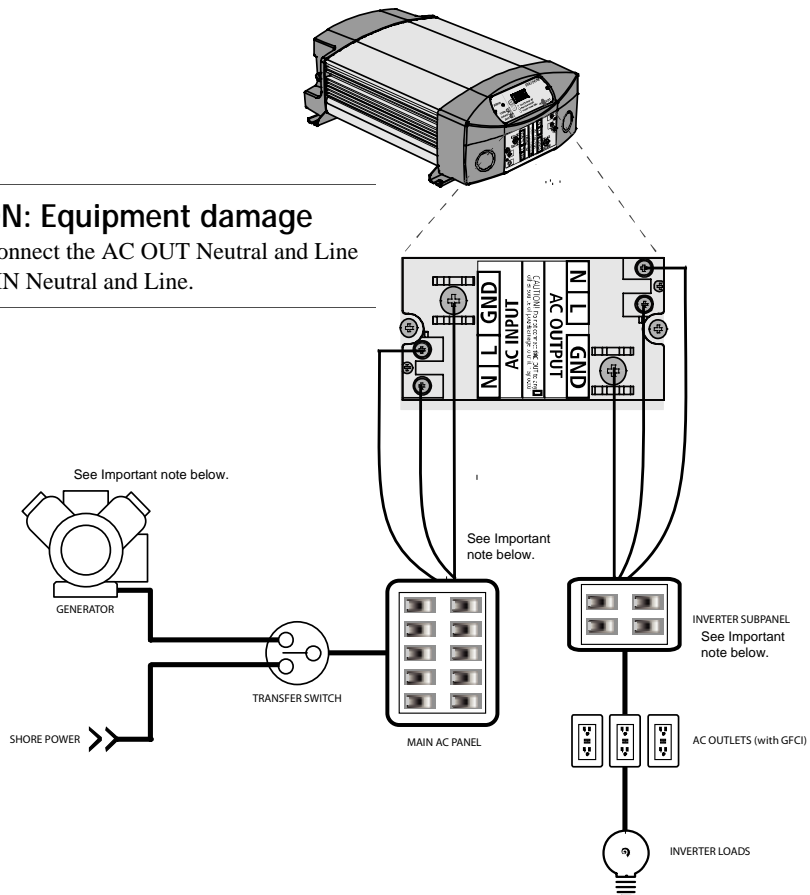
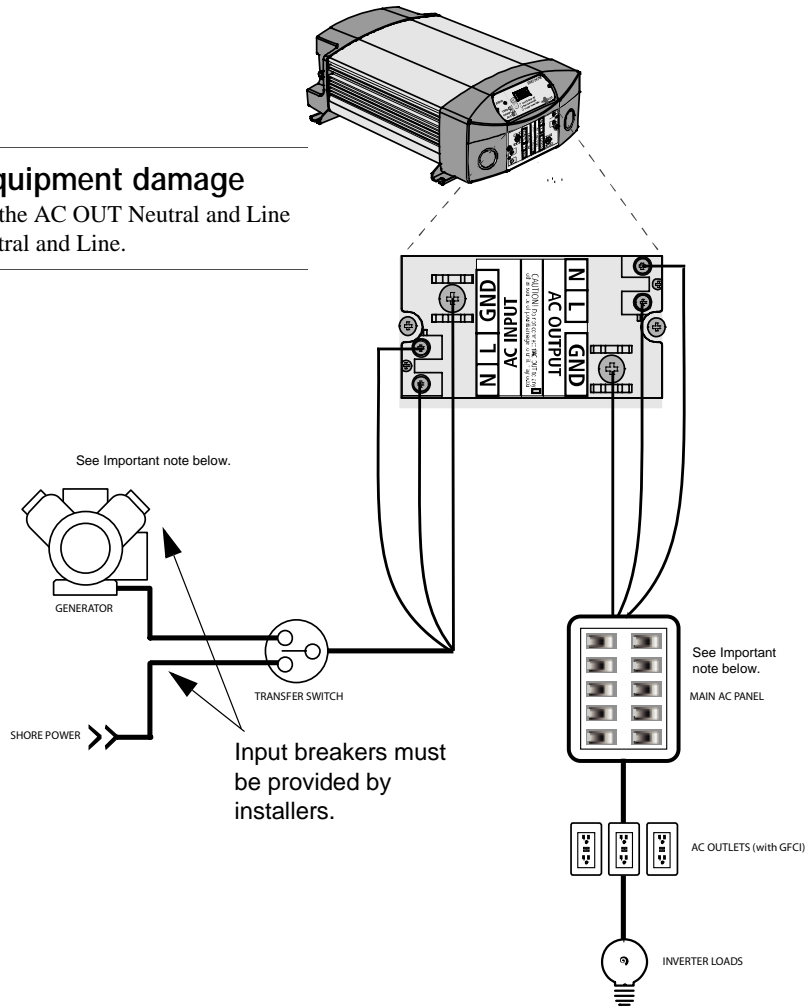

Figure 1-6 AC Wiring Diagram with an Inverter Subpanel
Figure 1-7 AC Wiring Diagram without an Inverter Subpanel
2. Install the required circuit breaker in the AC output panel supplying the unit (See Figure 1-6 on page 1–21).
2. Install the required value of circuit breaker in the AC load panel (see Figure 1-6 on page 1–21 and Figure 1-7 on page 1–22).